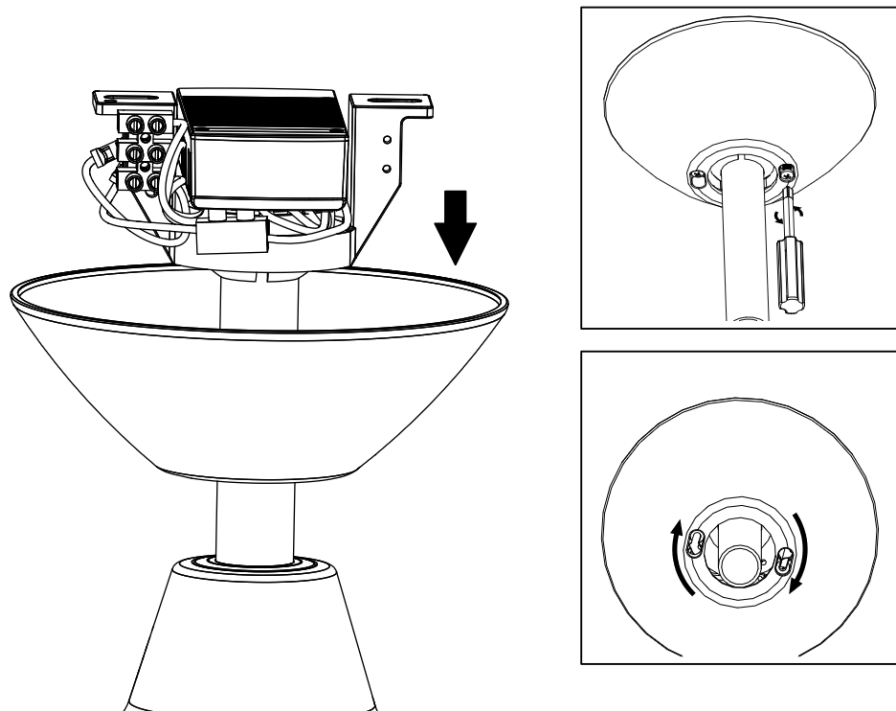

Fig. 8.1
1. Uninstall the ball joint, canopy, canopy bottom cover & the down rod joint cover from the fan assembly; (Figure 8.1, 8.2)